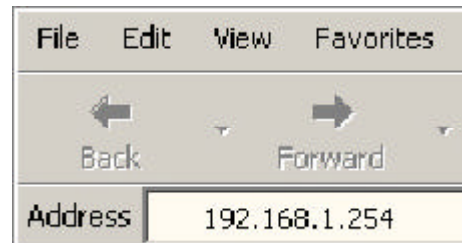

Fig. 3.1
Step 1 Open the web browser and type the default IP address of the Print Server: **192.168.1.254**. See Fig. 3.1